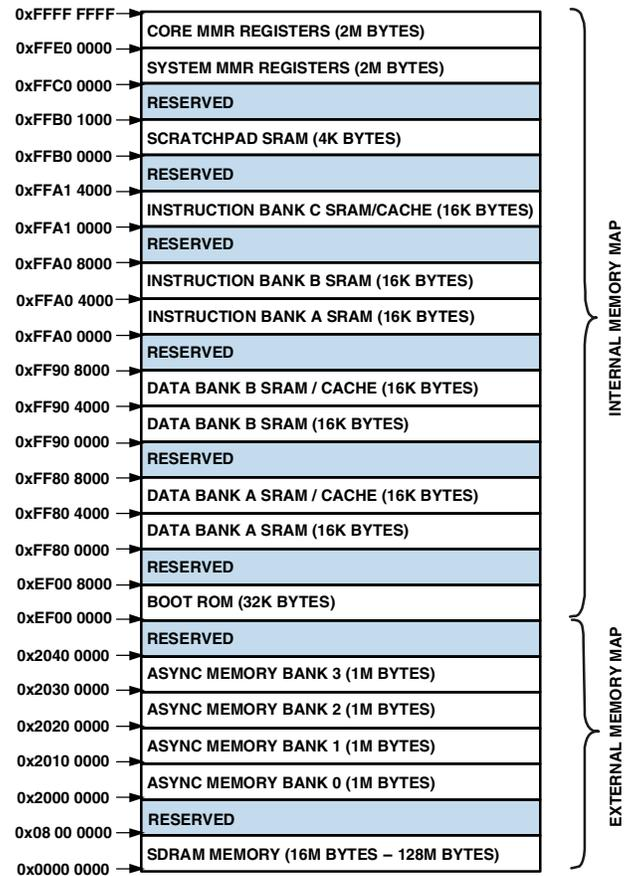

Figure 2. ADSP-BF512/BF514/BF516/BF518(F) Internal/External Memory Map
The ADSP-BF512/BF514/BF516/BF518(F) processors view memory as a single unified 4G byte address space, using 32-bit addresses. All resources, including internal memory, external memory, and I/O control registers, occupy separate sections of this common address space. The memory portions of this address space are arranged in a hierarchical structure to provide a good cost/performance balance of some very fast, low-latency on-chip memory as cache or SRAM, and larger, lower-cost and performance off-chip memory systems. See Figure 2.